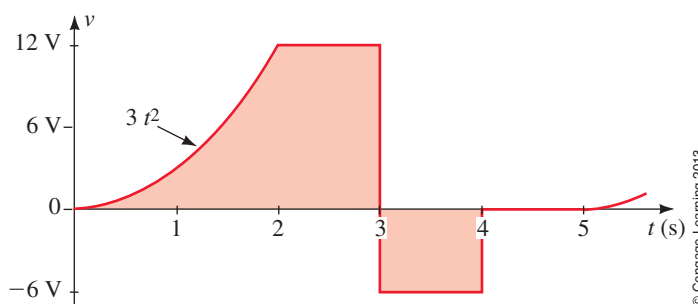

FIGURE 15-91
52. Using numerical methods for the curved part of the waveform (with increment size $\Delta t = 0.25$ s), determine the area and the average value for the waveform of Figure 15-91.
53. Using calculus, find the average value for Figure 15-91.